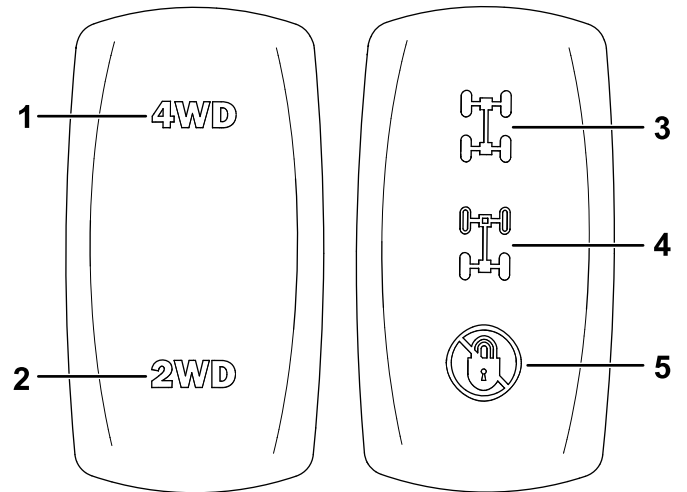

Figure 55
2. Press the 2-wheel drive/4-wheel drive switch (Figure 55) up to engage 4-wheel drive.
With your foot off the accelerator pedal, disengage 4-wheel drive by pressing the 2-wheel drive/4-wheel drive switch to the down position (Figure 55).
2. Press the differential-lock switch to the mid position to engage the rear differential lock (Figure 55).
Press the differential-lock switch to the up position to engage the front and rear differential locks (Figure 55).
With your foot off the accelerator pedal, disengage the differential lock(s) by pressing the differential-lock switch to the down position (Figure 55).